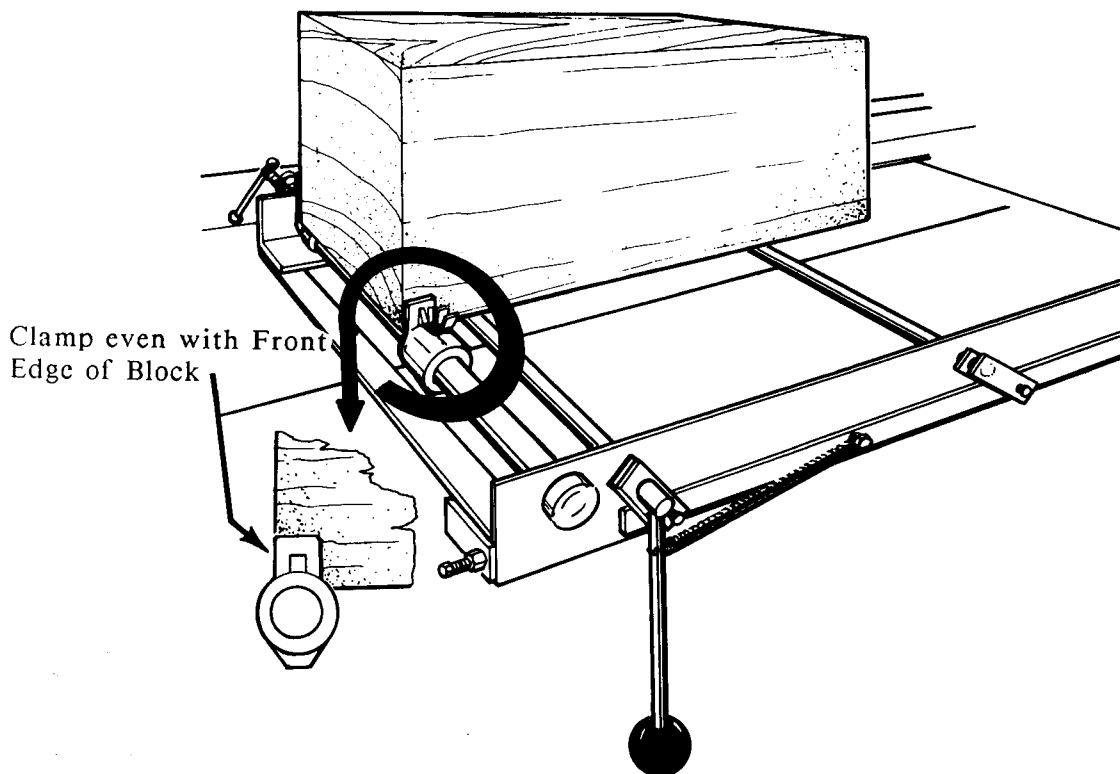

FIGURE 2
3. Mount the blocks into the Shingle/Lap siding option by clamping them with the bar clamps. The lead edge of the block should be even with the front edge of the clamp that holds it (See Figure 2).